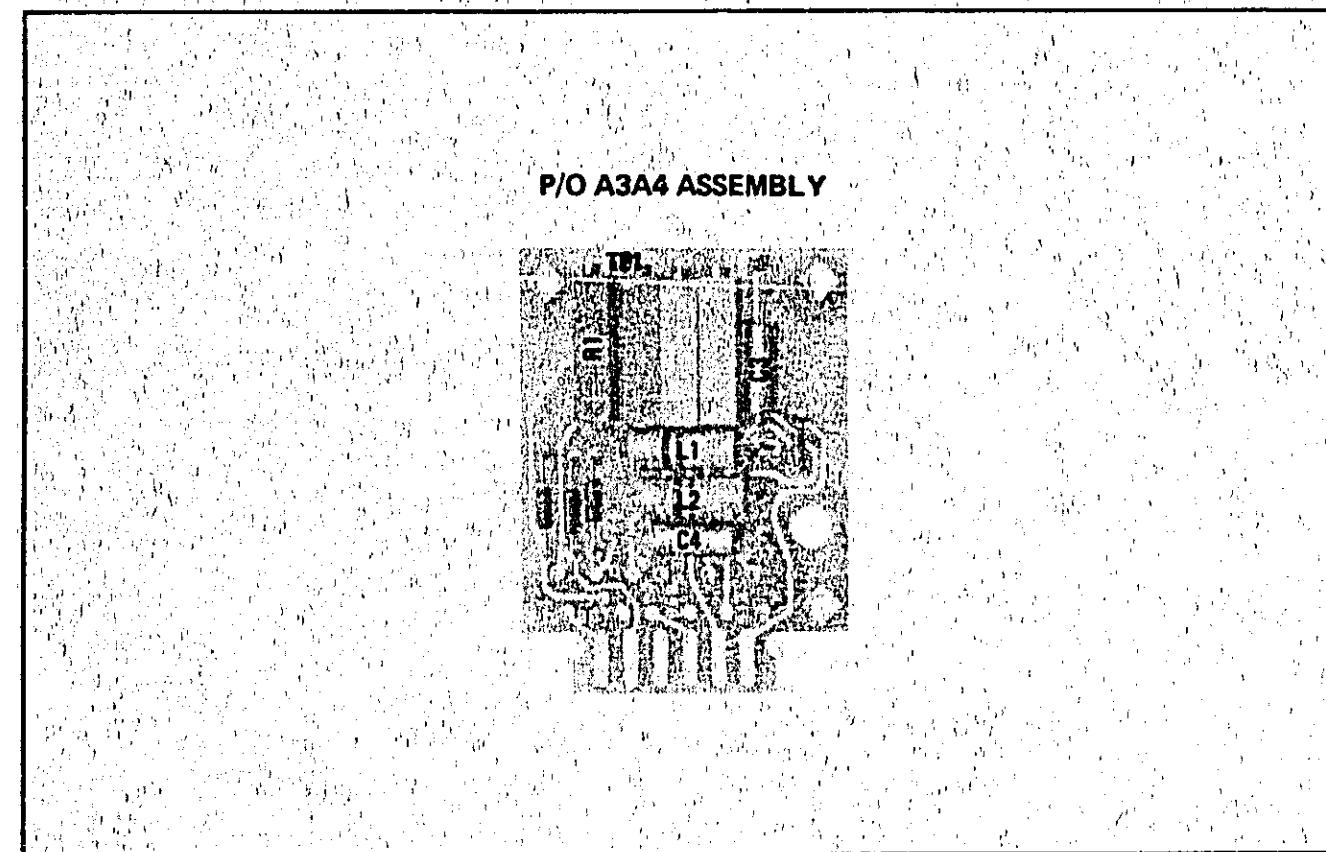

Figure 8-16. P/O A3A4 Connector Board Assembly Component Locations
c. To modify the circuitry to leave the RF Oscillator on, at all times, add jumper wire between the two holes labeled "RF OSC ON/OFF INHIBIT" as shown in Figure 8-16. To modify the circuitry so the RF Oscillator is switched off, remove the existing jumper wire.